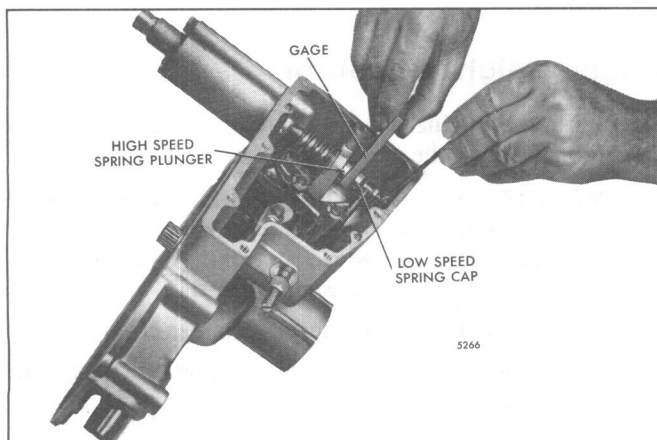

Fig. 7 – Adjusting Governor Gap (Single Weight Governor) with Feeler Gage J 23478
6. Check the gap between the low-speed spring plunger and the high-speed spring plunger with gage J 23478 (.200") – (Fig. 7). Be sure the external starting aid screw (if used) is backed out far enough to make it ineffective when making this adjustment.